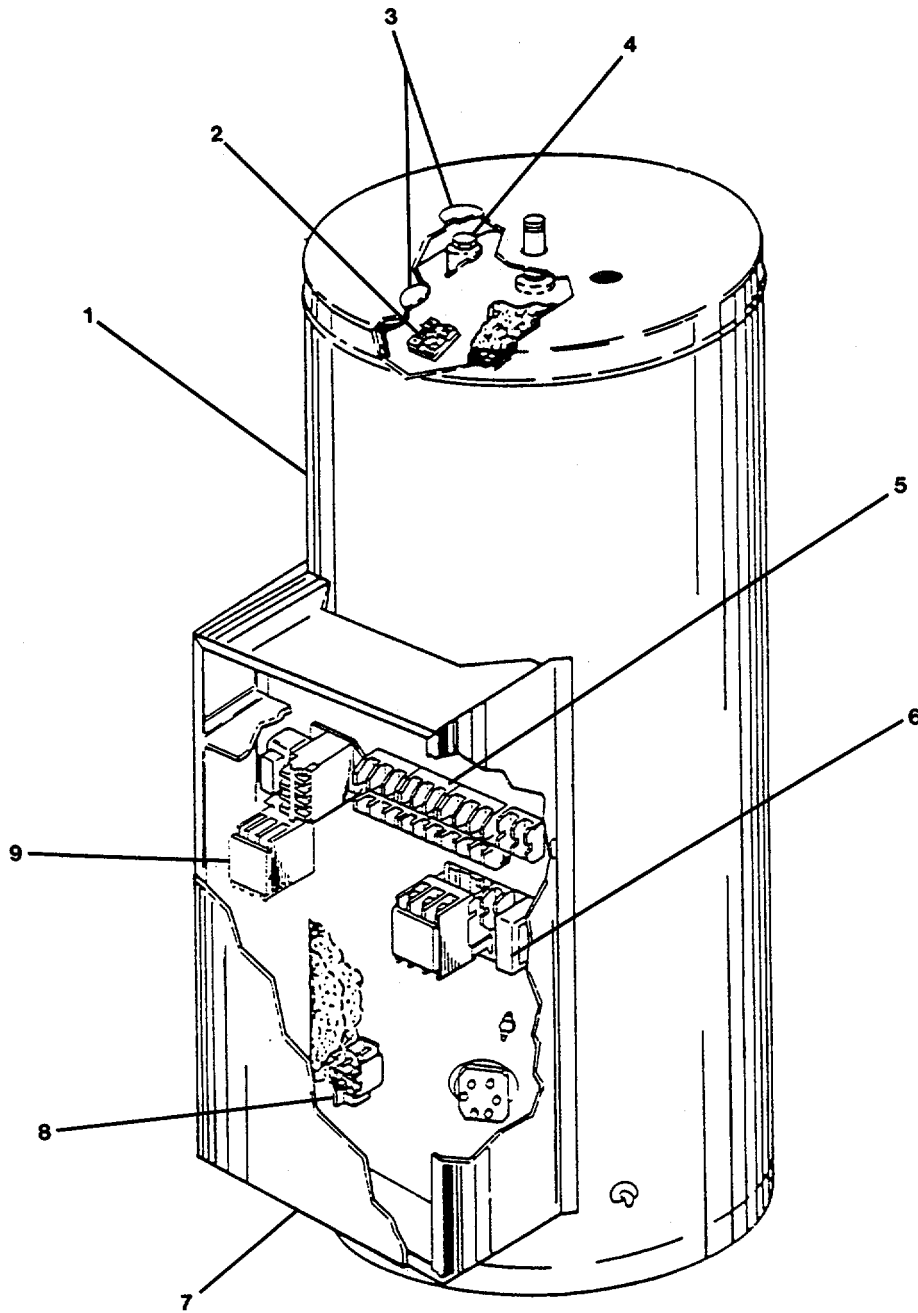

FIGURE 3-209. *Hot Water Heater Repair.*
a. Remove top cover plugs (3, Figure 3-209) from hot water heater (1).
b. Remove thermostatic switch (2).
c. Remove corrosion preventive anode (4).
d. Open hinged access door (7).
e. Remove fuse block (5), transformer (6), thermostatic switch (8), and contactor (9).
- a. Install contactor (9, Figure 3-209), thermostatic switch (8), transformer (6), fuse block (5).
- b. Close hinged access door (7).
- c. Install corrosion preventive anode (4) and thermostatic switch (2).
- d. Install top cover plugs (3) on hot water heater (1).